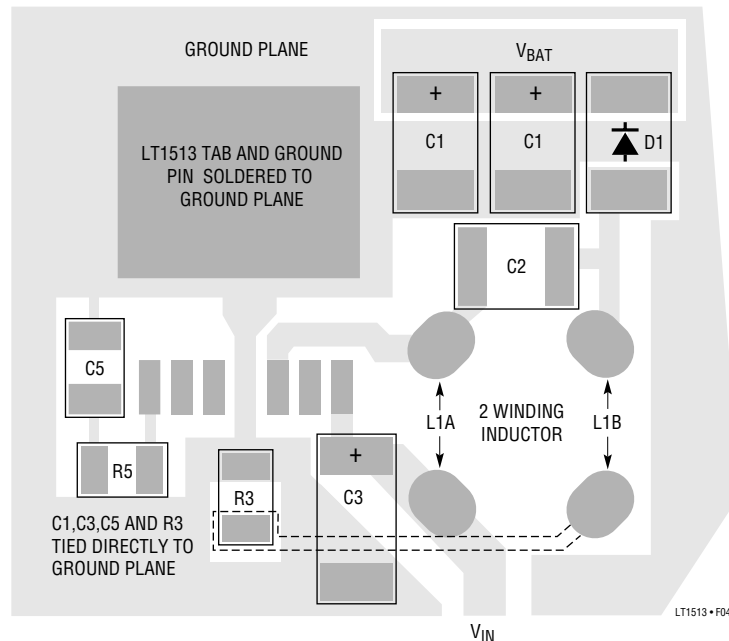

Figure 4. LT1513 Suggested Partial Layout for Critical Thermal and Electrical Paths
**TAB:** The TAB on the surface mount R package is electrically connected to the ground pin, but a low inductance connection must be made to both the TAB and the pin for proper circuit operation. See suggested PC layout in Figure 4.